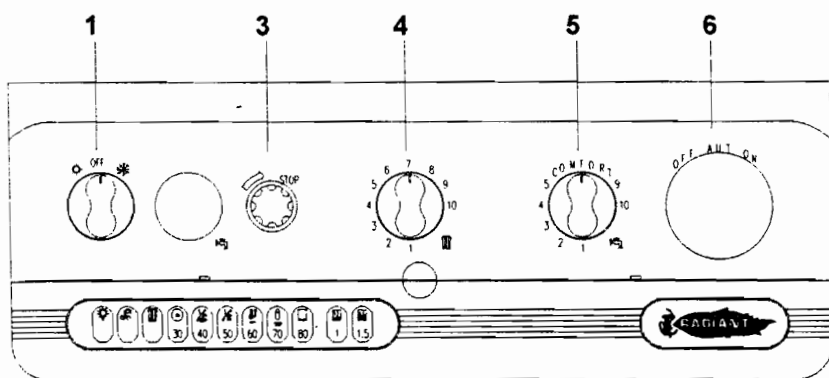

Fig. 1
- b) Set switch 1 to one of the two symbols summer ☼ winter ❄ (see fig. 1).